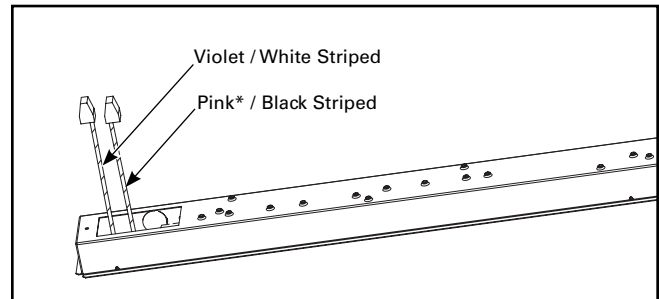

Figure 3.
- 2b. For a fixture with an integrated sensor, locate two control wires with push nuts (violet / white stripe, pink* / black stripe) and skip to step 4. (Figure 3.)